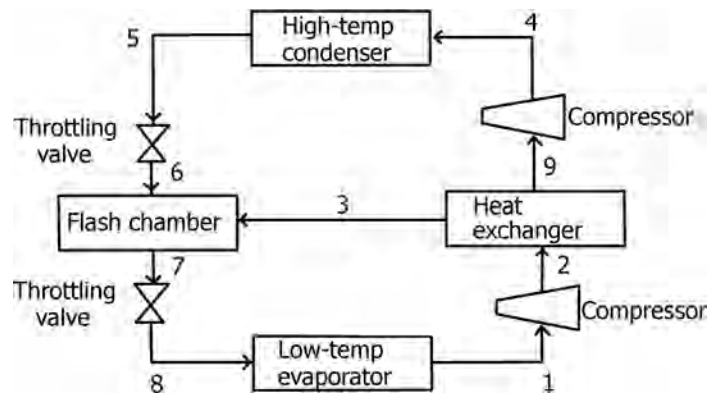

FIGURE 12.2 Cascade refrigeration cycle.
- Figure 12.2 illustrates a cascade refrigeration cycle.
- The cascade refrigeration system incorporates two or more refrigeration cycles in series (Figure 12.2) to acquire low temperatures, which cannot be achieved with a single refrigeration cycle.